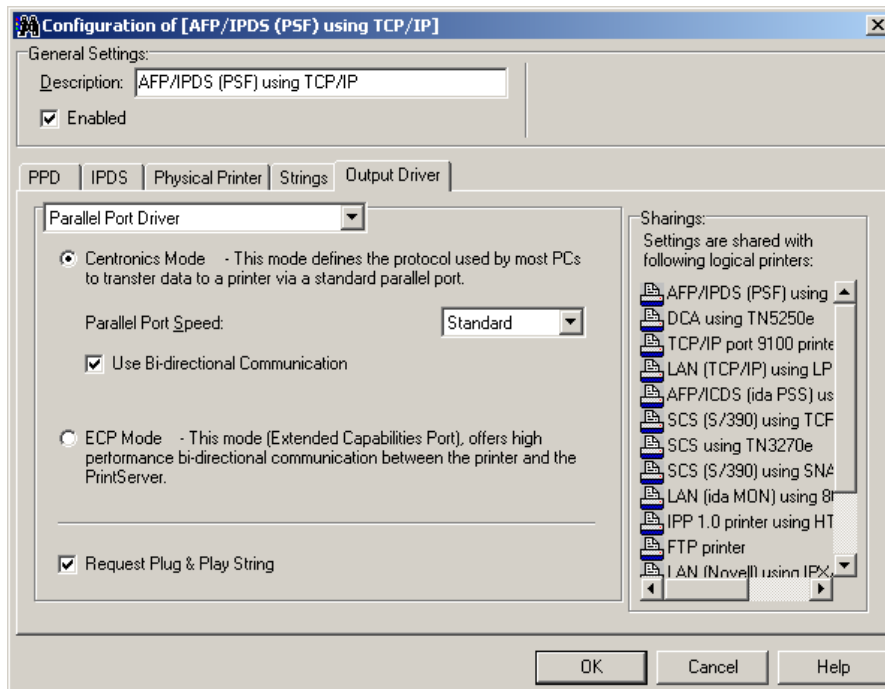

Figure 12
11. Click Output Driver (Figure 12).